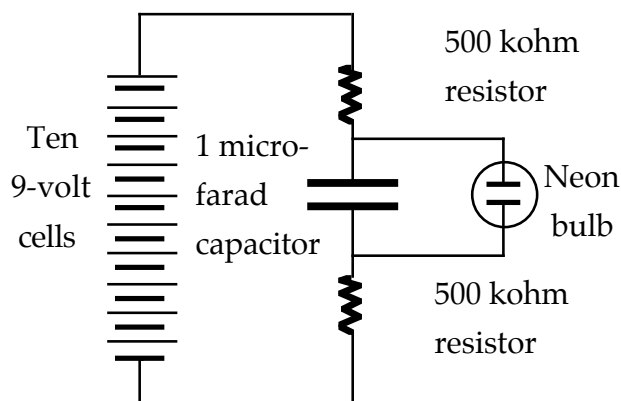

Figure 7.1b
4. Now we will modify the circuit by adding a new kind of bulb, a neon bulb, in parallel with the capacitor as in Figure 7.1b.